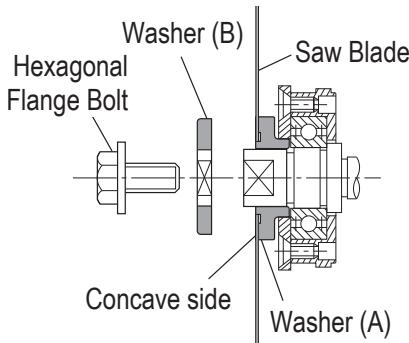

Fig. 15
- For mounting saw blade, the concave side of washer (A) must be fitted to the saw blade side. (See **Fig. 15**)
(3) If washer (A) was removed, install it on the main unit first. Next, mount the saw blade on the spindle, and finally, affix washer (B). (See **Fig. 15**)